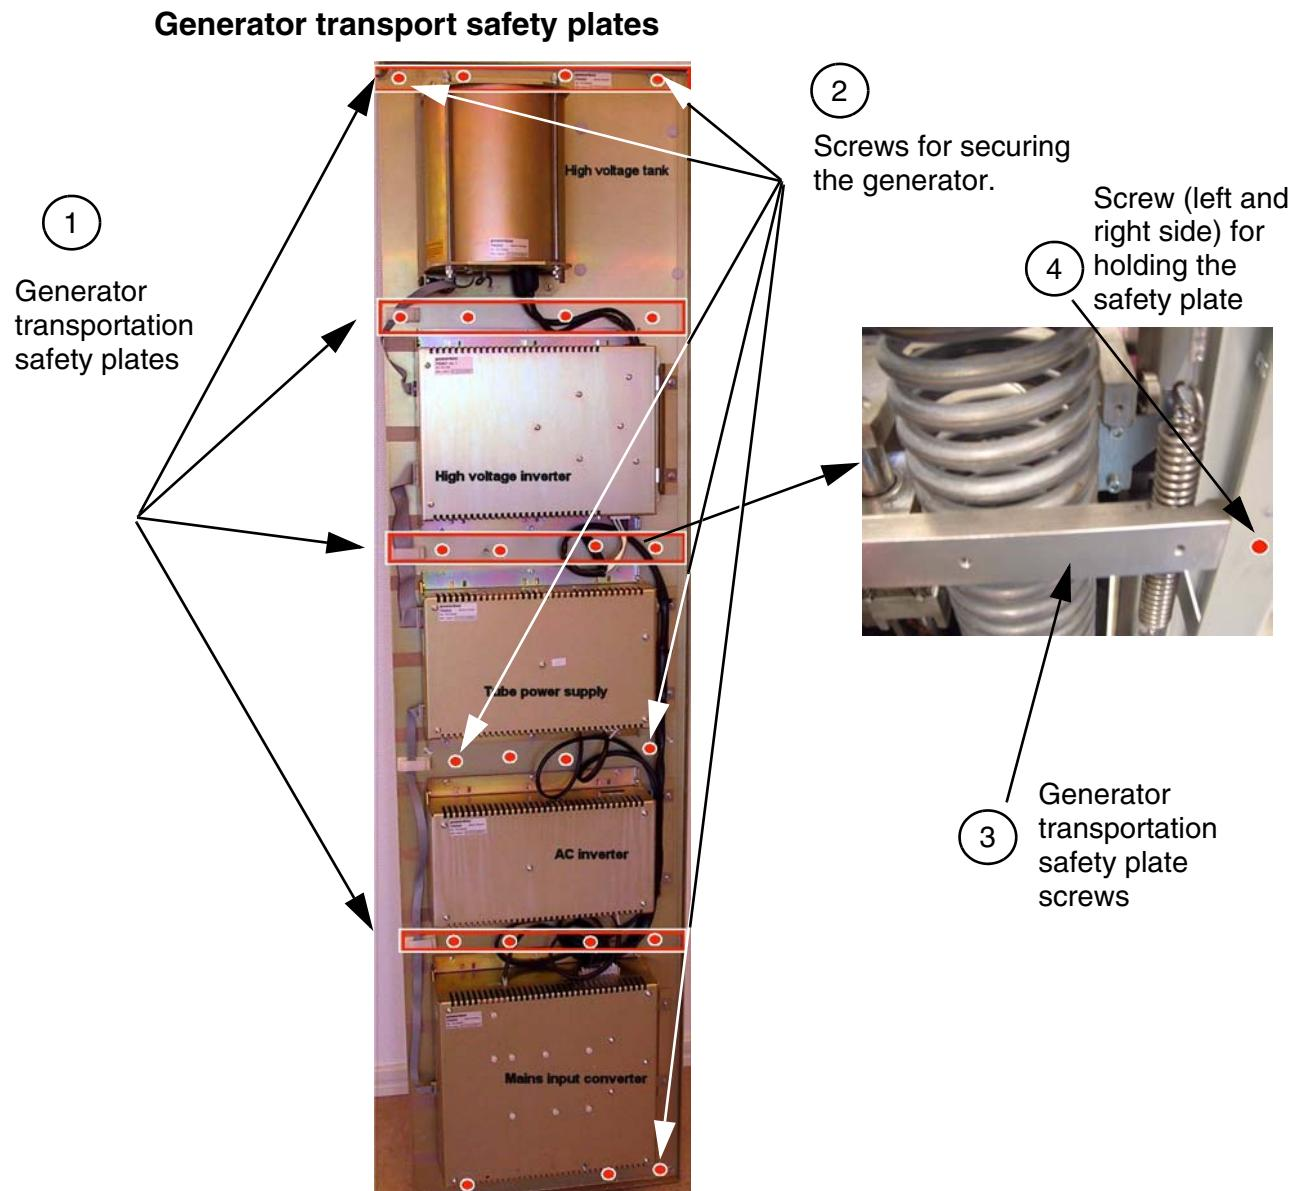

Fig. 4 Generator transport safety plates
1. To be able to access the inside of the stand, you loosen all marked screws (red dots in Fig. 4) on the generator panel.
2. Move the generator panel to the side to be able to remove the generator transportation safety plates (see No. 3/Fig. 4).
3. Remove all four generator transportation safety plates (see No. 1/Fig. 4) by removing two screws per plate (left and right, see No. 4/Fig. 4) that hold the generator transportation safety plate (see No. 4/Fig. 4).
4. Close the generator panel and insert only the specified five screws (see No. 2/Fig. 4) to secure the generator panel.